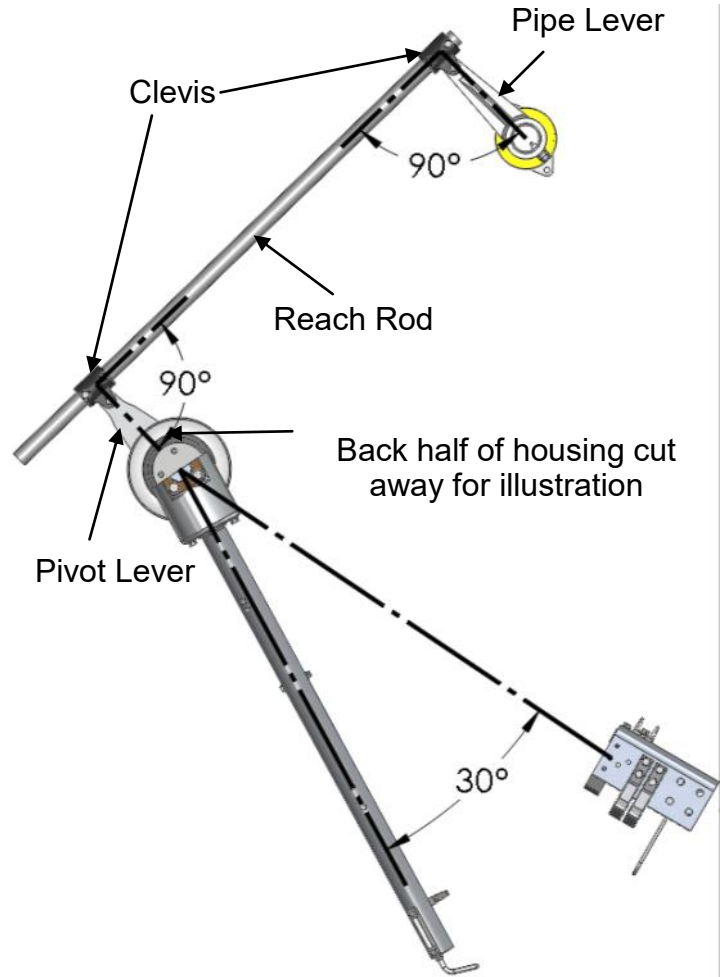
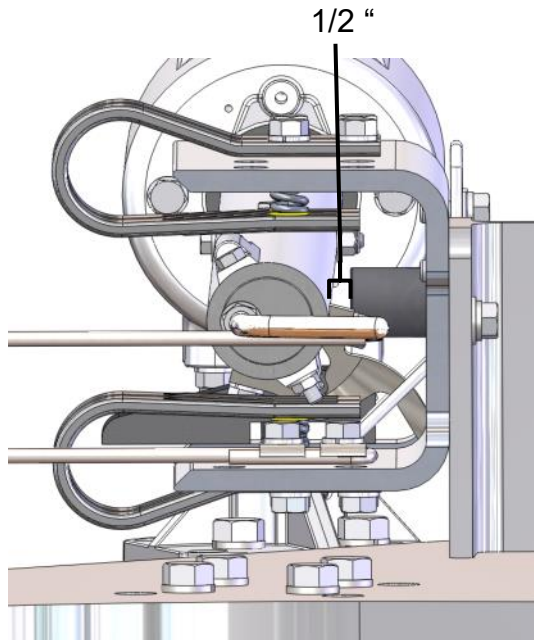

Figure 17 — Reach rod assembly
Figure 21 — Setting delay
- 2. Open the top phase approximately 30° from the jaw as shown in Figure 21. Set the levers so they are perpendicular to the reach rod as shown in Figures 17 and 18.
Depending on the type of mounting, the pivot and pipe levers may be positioned differently than shown in Figure 21. Refer to Control Mechanism Drawing for proper positioning of the levers.
- 11. Set the blade in the jaw such that the blade is a 1/2 inch from the jaw bumper as shown in Figure 21.
- 4. After all installation and adjustment of the switch is finished at the top of the pole, open the switch so that it is 30° open from the jaw as shown in Figure 17.
- 3. After all installation and adjustment of the switch is finished at the top of the pole, open the switch so that it is 30° open from the jaw as shown in Figure 17.